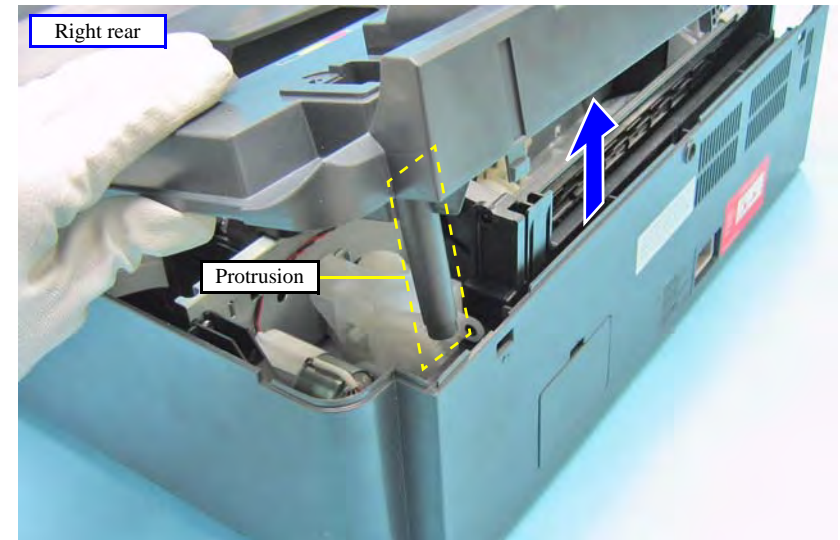

Figure 4-10. Removing the Upper Housing (2)
3. Lift the rear of the Upper Housing until its protrusion comes to the point shown in **Figure 4-10**.